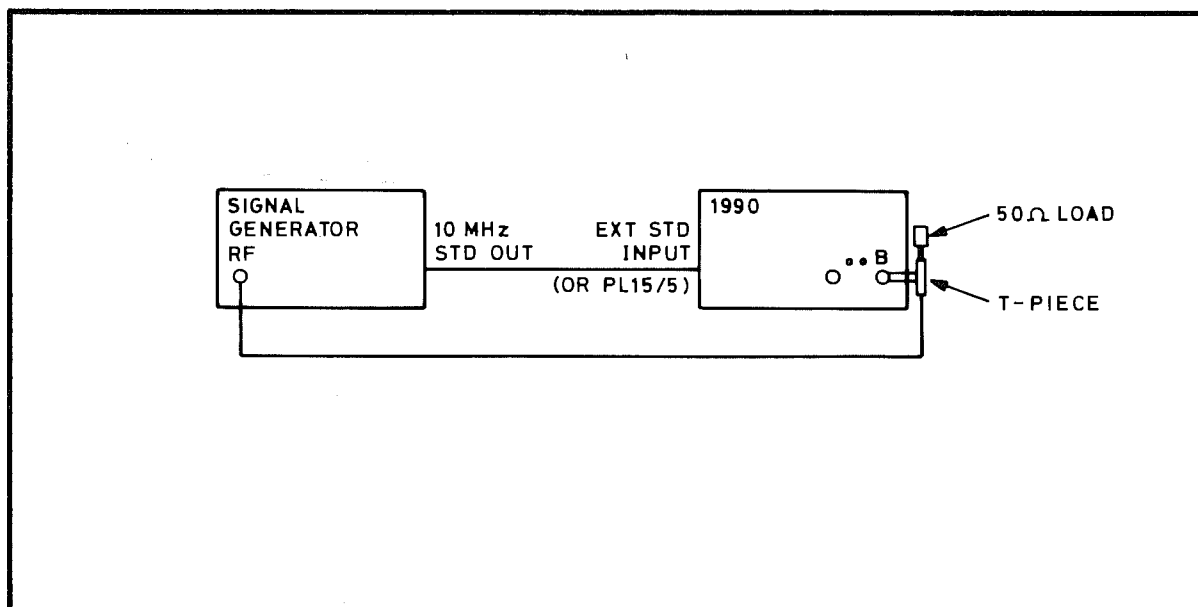

Fig 7.12 Connections for Channel B Input System Adjustment
- (1) Switch the 1990 on. Allow 10 min for the instrument to stabilise and ensure that the B trigger level control is switched to 0 V.
- (2) Press **DELAY** for 3s, until the DELAY LED lights.
- (3) Press the RESOLUTION ↓ key three times, until 000 is displayed.
- (4) Connect the test equipment as shown in Fig 7.12. If the 1990 is not fitted with the frequency standard input/output option, use the X1 scope probe to connect the 10 MHz standard output of the signal generator to PL15/1.
- (5) Set the signal generator output to 10 MHz at a level of 2.0 mV r.m.s.
- (6) Verify that the EXT STD indicator is lit, and that the channel A TRIG indicator is not flashing.
- (7) Adjust R36 to obtain the most stable display indication of $10.00 E6 \pm 0.01 E6$, with the GATE indicator flashing.